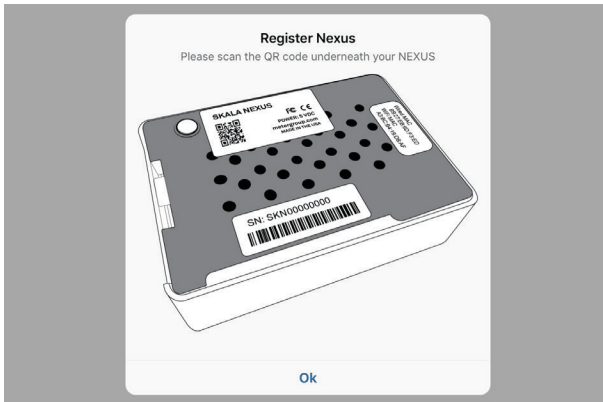

Figure 27 Register NEXUS window
4. Select **Ok** in the Register NEXUS popup window (Figure 27).